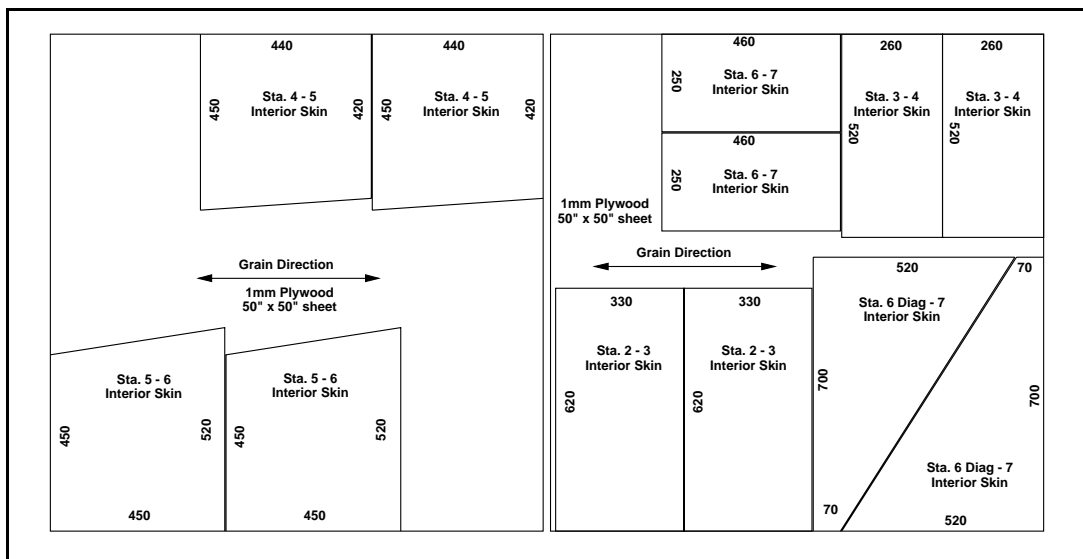

Figure 1
- Cut two 50" x 50" sheets of 1mm birch plywood as shown in Figure 1.